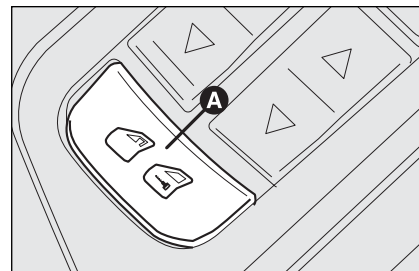

fig. 13
- ☐ button **A**-fig. 13 for locking/unlocking the doors, placed on the driver door panel mask;